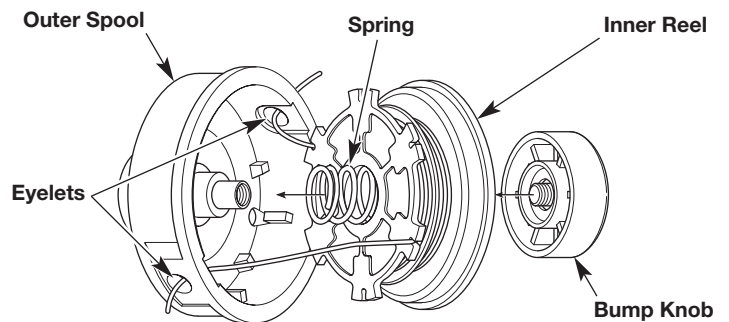

Fig. 18
1. Pass the two line ends through the eyelets in the outer spool. Place the spring inside the inner reel. Insert the inner reel into the outer spool. Push the inner reel and outer spool together (Fig. 18).